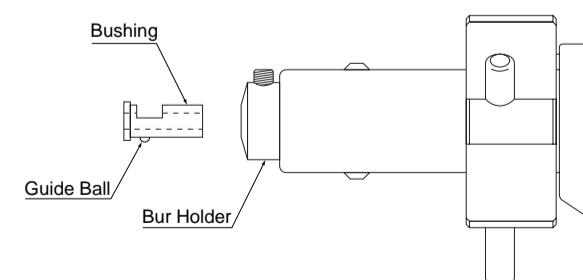

Fig.3
- ② To mount a larger tool (3.2 mm through 6.4 mm), loosen the setscrew, remove the bushing, insert the tool and tighten the setscrew. (To re-install the bushing, align the guide ball on the bushing with the slot in the bur holder.) (Fig.3)